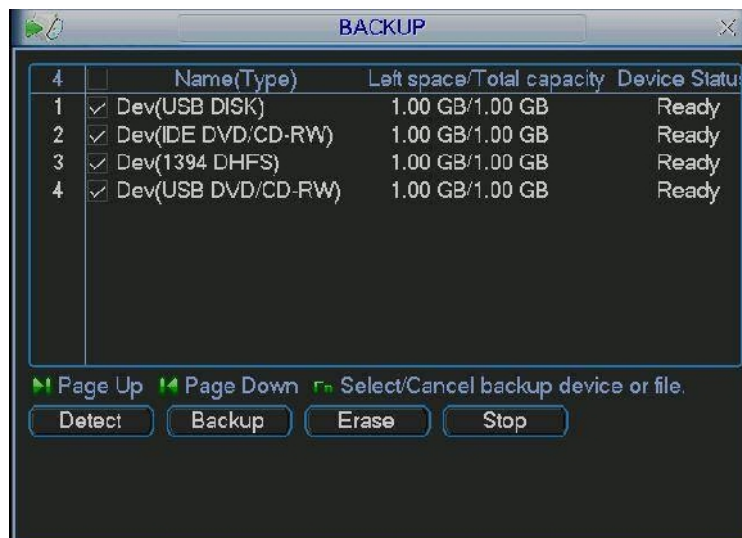

Figure 4-27
- ⌘ PTZ activation: Here you can set PTZ movement when alarm occurs. Such as go to preset, tour& pattern when there is an alarm. Click “select” button, you can see an interface is shown as in Figure 4-27.
Click backup button, you can see an interface is shown as in Figure 4-27. Here is for you to view devices information.